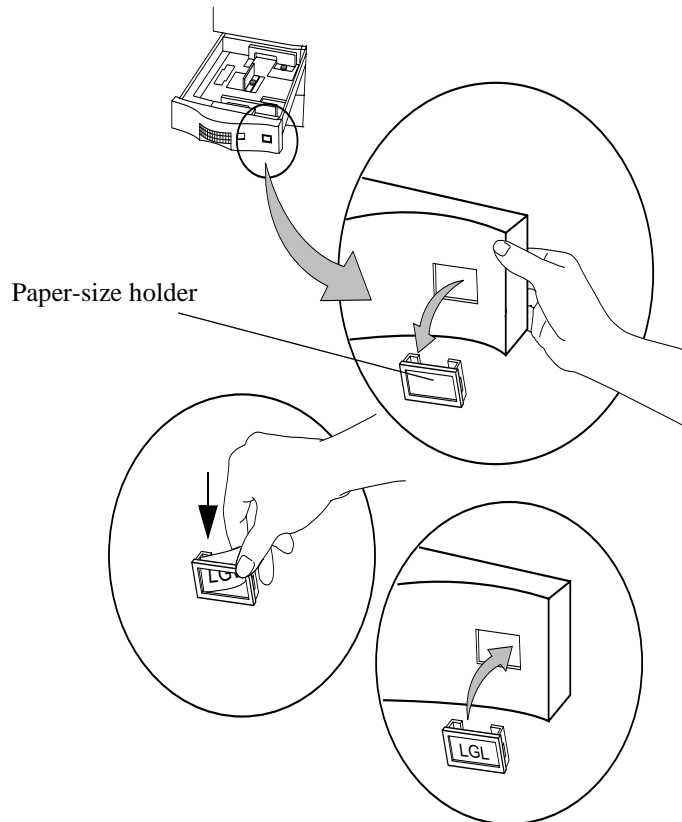

Figure 2-66 Paper-Size Holder
3. Pull out each tray and push out the paper-size holder, as shown in Figure 2-66.